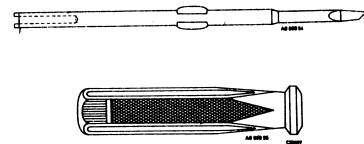

Fig. 1
- For the adjustment of the recording/playback head a new tool has been developed (see fig. 1). This is because the height of the head is adjustable by means of slotted nuts.